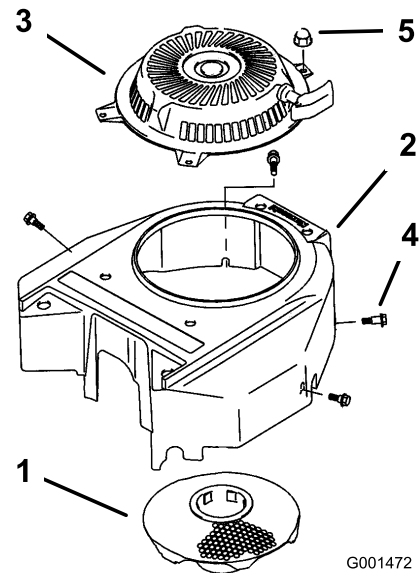

Figure 35
3. Remove the air-intake screen, recoil starter, and fan housing (Figure 35).
5. Install the air-intake screen, recoil starter, and fan housing (Figure 35).